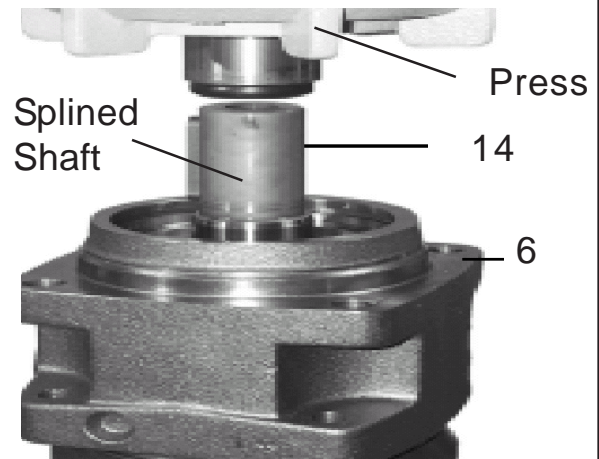

Figure 13
**12. Remove Shaft.** Remove Bearing housing from Vise and move to a press. Set the Housing in press where the bottom is open as the shaft will come out the bottom,. (See Figure 13) Make certain you support the shaft in a way that will not allow it to fall out when pressed and hit the floor. It will not take a lot of pressure to remove shaft so you should be able to catch it with your hand.